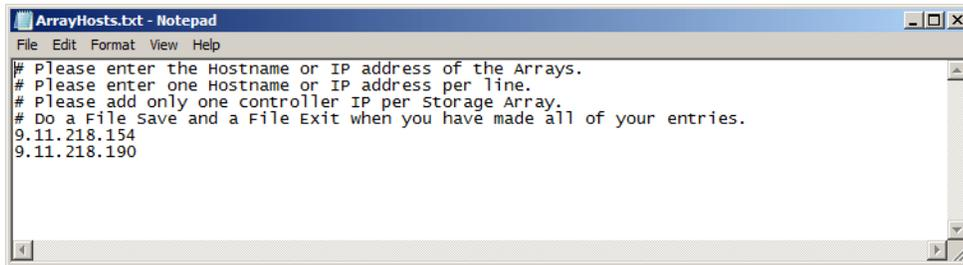

Figure 9-7 SMI-S Provider configuration file
5. The installation opens a text file in Notepad. Follow the instructions in the Notepad file to add the storage subsystems IP addresses. (Figure 9-7 on page 372).